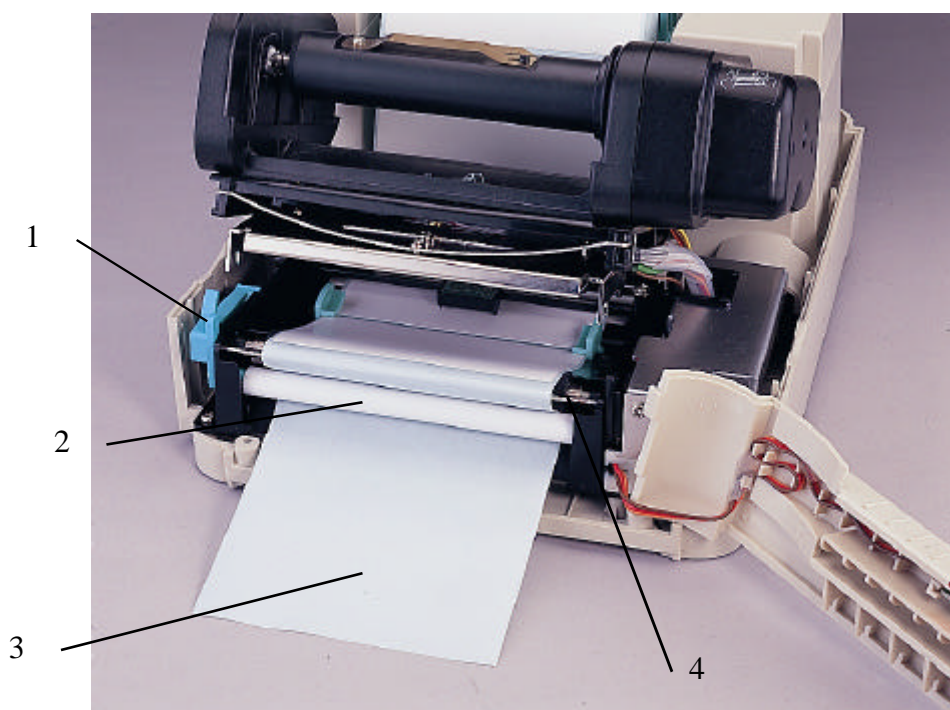

Figure 7. Setting up printer for self-peeling function
2. Tear off the foremost one or two labels of the label stock, as befits the case. Feed the backing paper between the platen and the white “self-peeling” roller, as shown in Figure 7.